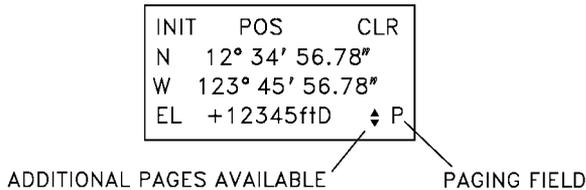

Figure 2-4 Page Change Indicator.
2.3.2.13 Paging Control. Many of the PLGR functions have several display pages of information. When more than one page is available, the (↕) symbol (double-arrow symbol next to the P symbol) is displayed on the right side of line four. Additional pages of a display are accessed by first selecting the paging field (P symbol), then pressing the *Up-* or *Down-arrow* key to scroll through the pages. The (↕) symbol is displayed only when the cursor is on the paging field. Refer to Figure 2-4.